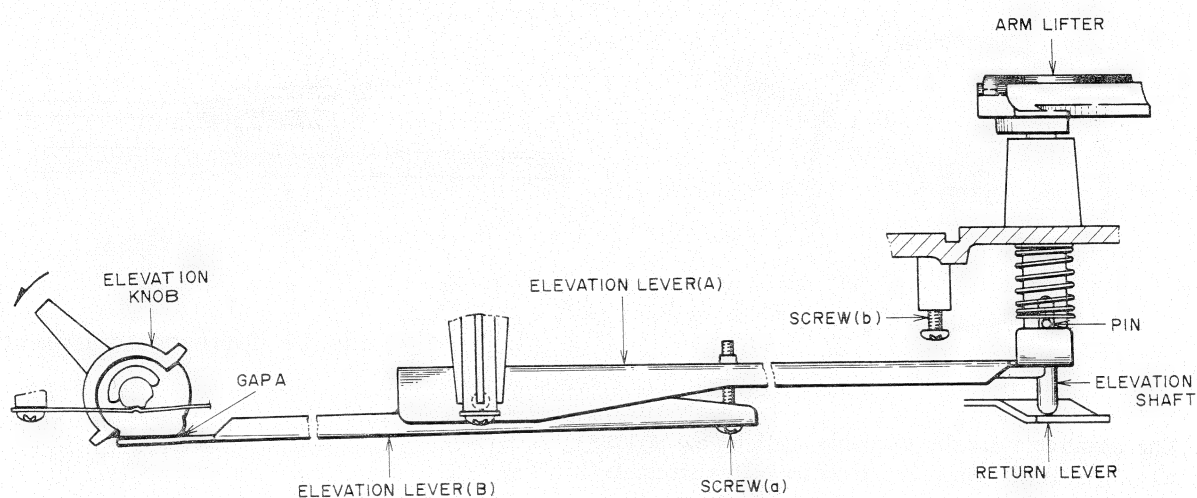

Fig. 16
1. Adjust with the elevation control and the arm lifter should be down. Confirm that the elevation shaft and lifter lever are touching. If not, press the arm lifter down with one finger until they do. Adjust screw (a) at exactly the point where the gap A between the elevation lever (B) and the elevation control disappears. (Refer to Fig. 16).